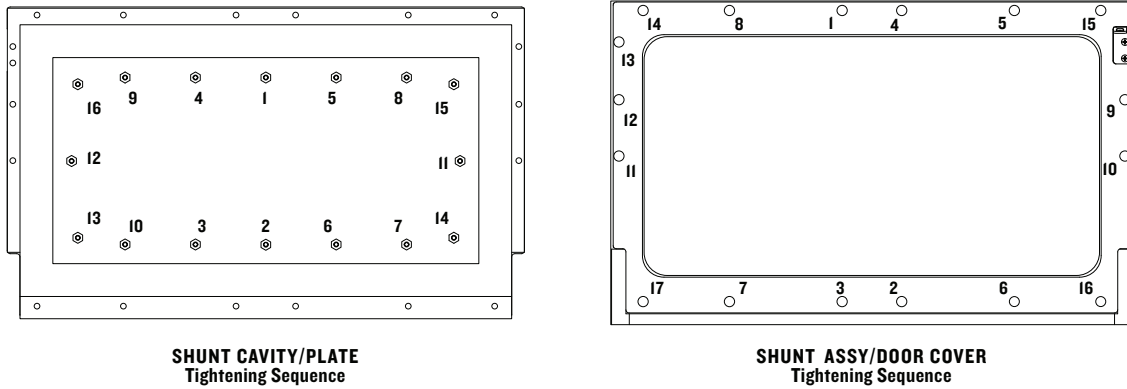

FIGURE 36: Oven Door Assembly: Tightening Specs
5. Refer to the chart to the right for torque specs. Refer to Figure 36, above, for tightening sequences.